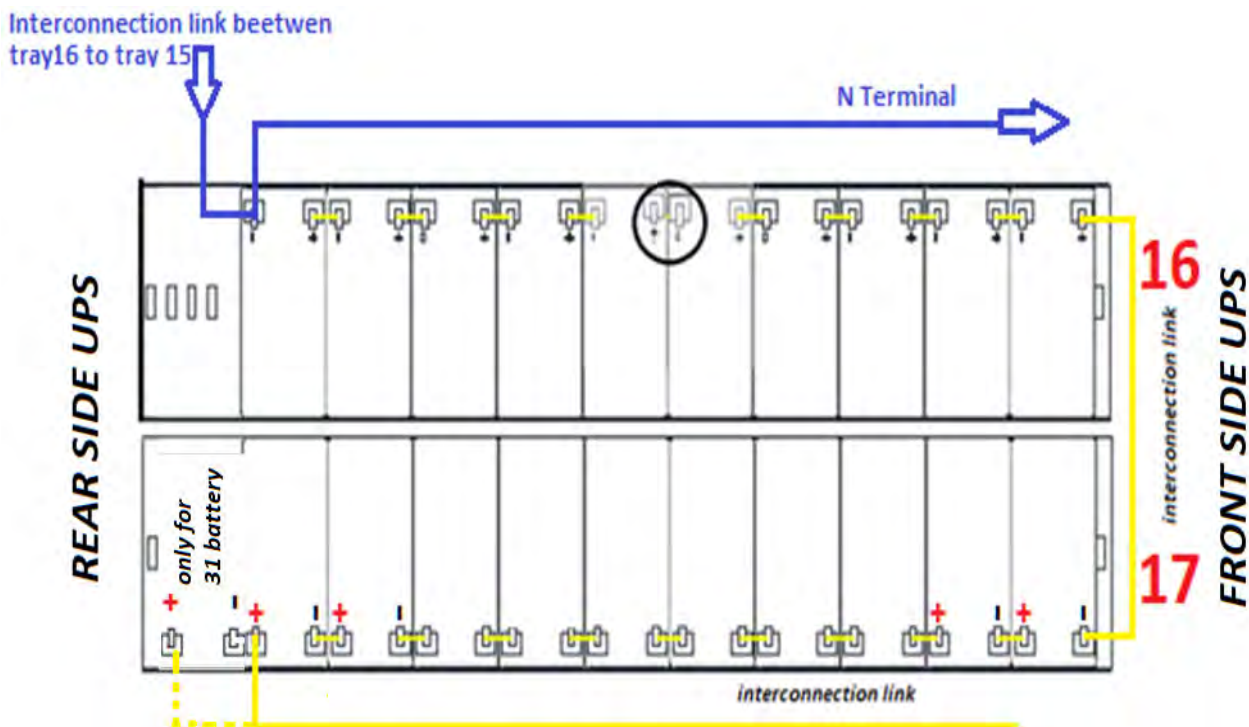

Figure 23 - View from above Level No.6 trays no. 16-17
16) Insert tray no. 16 by removing the circled jumper and inserting the jumpers as demonstrated in Figure 23.